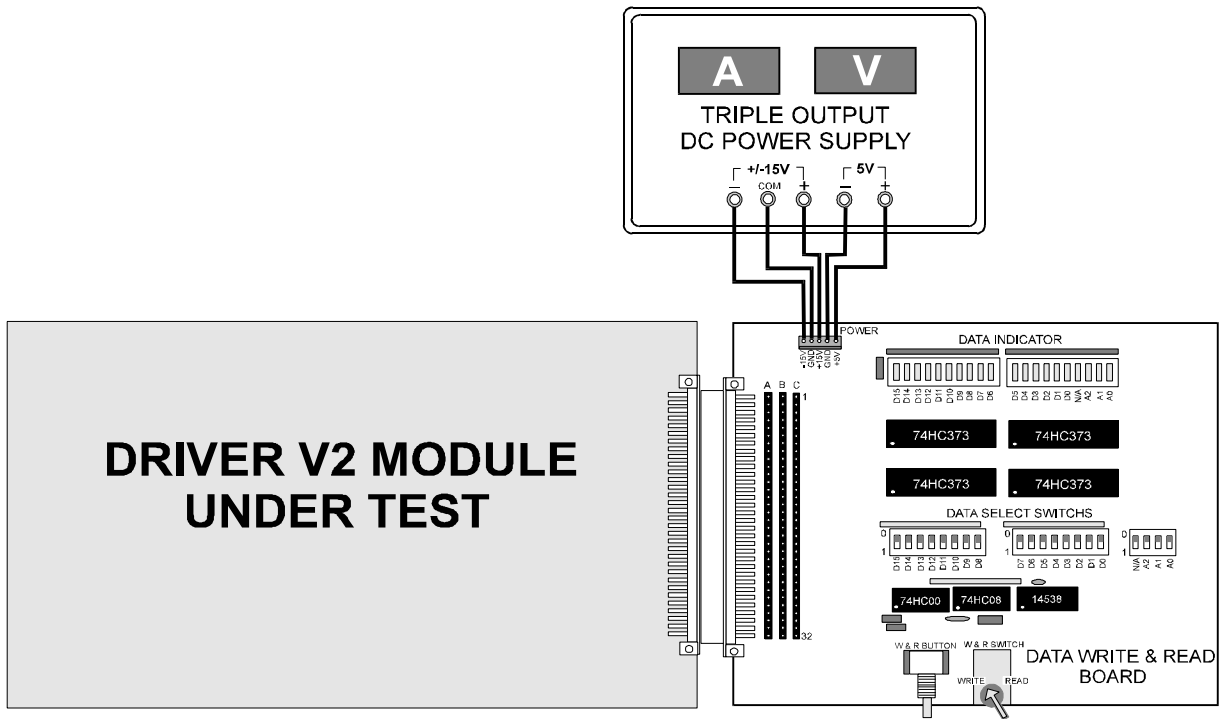

Figure1: Preliminary Test Setup
11. Data Write and Read Board (Special made for test Driver Module V2), see figure 1 below.